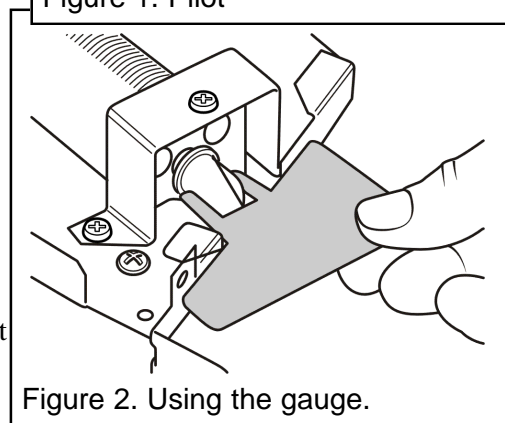

Figure 2. Using the gauge.
3. The kit contains an injector alignment gauge. It is important that this gauge is used to ensure that the injector is correctly aligned with the burner. Failure to check may result in poor combustion. After fitting the LPG burner place the gauge into the cut out at the side of the burner tray. The slot in the gauge should surround the injector as in figure 2. If the gauge will not fit, the injector alignment will require correction. To do this, support the top of the injector and gently rotate it. Continue to rotate and check with the gauge until correct.